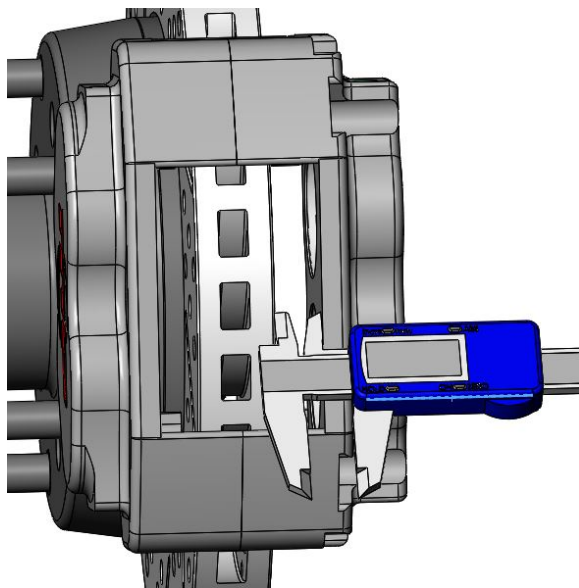
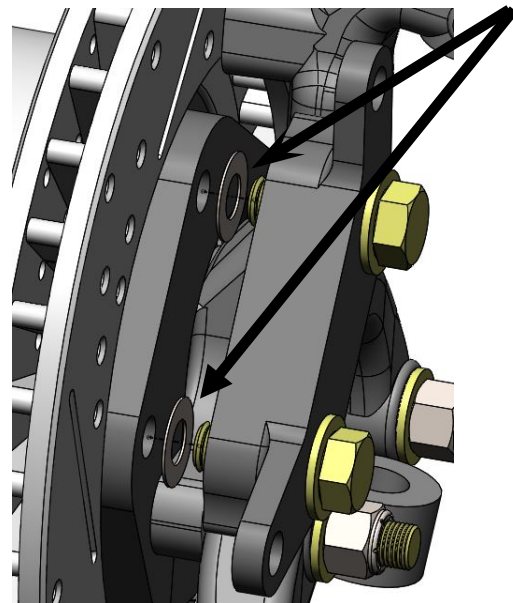

Figure 7a – Measuring the Pad to Rotor Clearance
Figure 7b - Shim Location
**NOTE:** Shimming of the caliper is required due to variations in spindle manufacturing and wear at the bearing seat area of the inner bearing. Refer to Figure 7a for measuring reference and Figure 7b on the location of the shims.